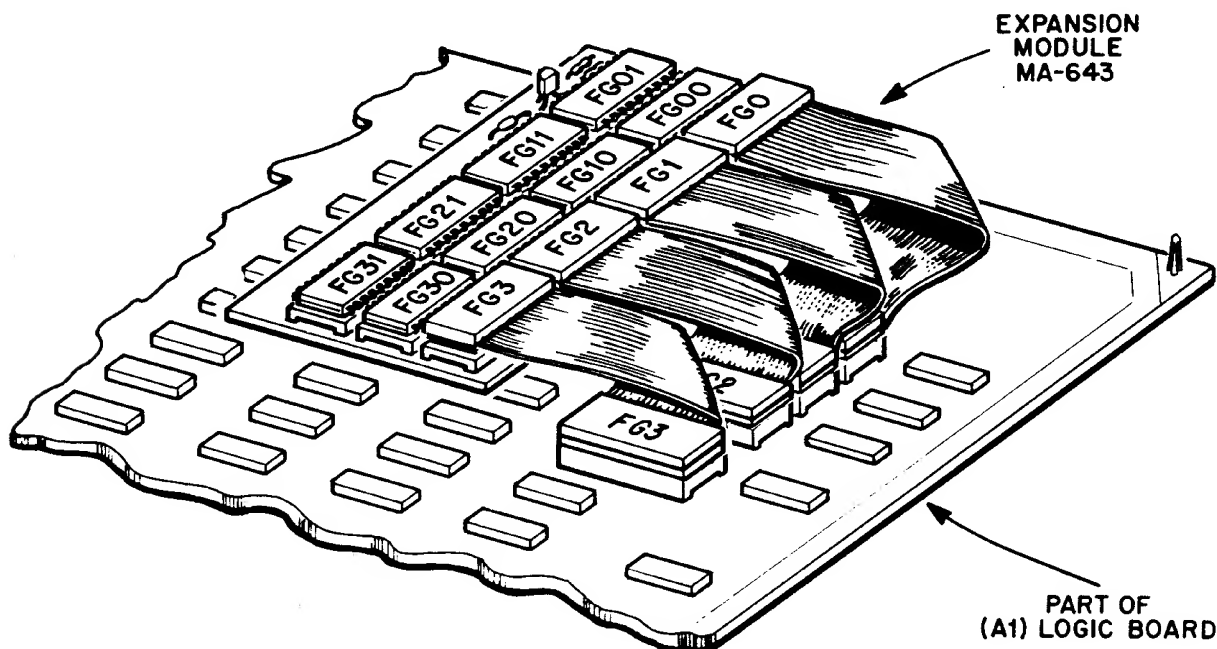
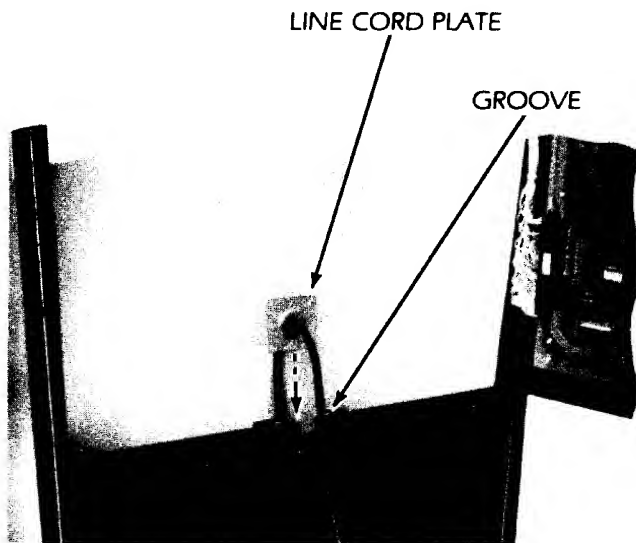

FIGURE 1.
FIGURE 2.
2. THE FOREGROUND OBJECT ROM (EXPANSION MODULE, MA-643) CONSISTS OF FOUR SERIES PAIRED 2764'S WHICH HAVE THE SUM EQUIVALENT OF DOUBLING THE MEMORY CAPACITY REQUIRED FOR THE Q\*BERTS QUBES (GAME GV-119). THE LOGIC PROM KIT UTILIZED IS PK-119. SOUND PROM KIT USED IN THIS GAME IS PKS-119. SEE FIGURE 1. FOR LOCATION OF THE EXPANSION MODULE AND FIGURE 2. FOR THE SCHEMATIC DIAGRAM. THIS CIRCUIT MODIFICATION REPLACES THE K4, K5, K6 AND K7-8 PORTION OF LOGIC BOARD ASSY.(A1), SCHEMATIC DIAGRAM BOTTOM OF PAGE 21, SHEET 3 OF 3.